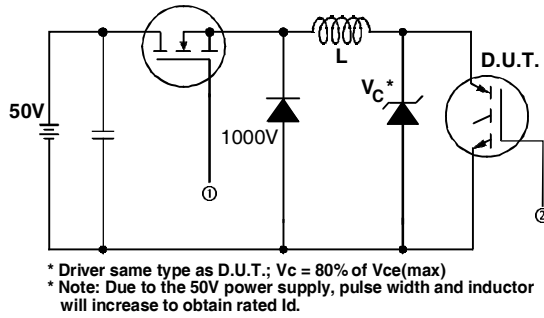

Fig. 13a - Clamped Inductive Load Test Circuit
- ② $V_{CC} = 80\%(V_{CES})$, $V_{GE} = 20V$, $L = 10\mu H$, $R_G = 5.0\Omega$, (See fig. 13a).
- ③ Repetitive rating; pulse width limited by maximum junction temperature.
- ④ Pulse width $\leq 2.5ms$; duty factor $\leq 0.1\%$.
- ⑤ Pulse width $5.0\mu s$, single shot.